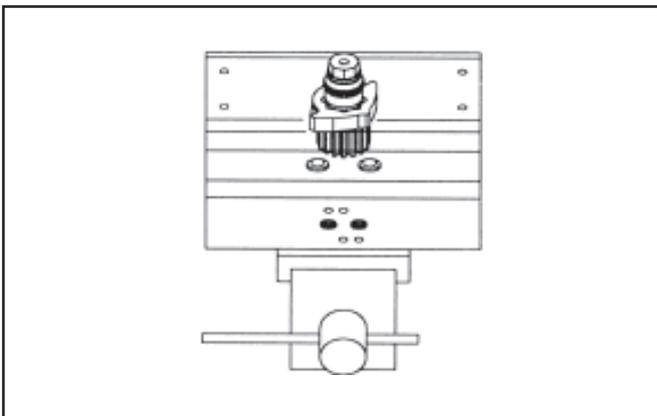

Fig. 23
- Ensure that the octi-cam (1) is in the right position as shown in figure 23.